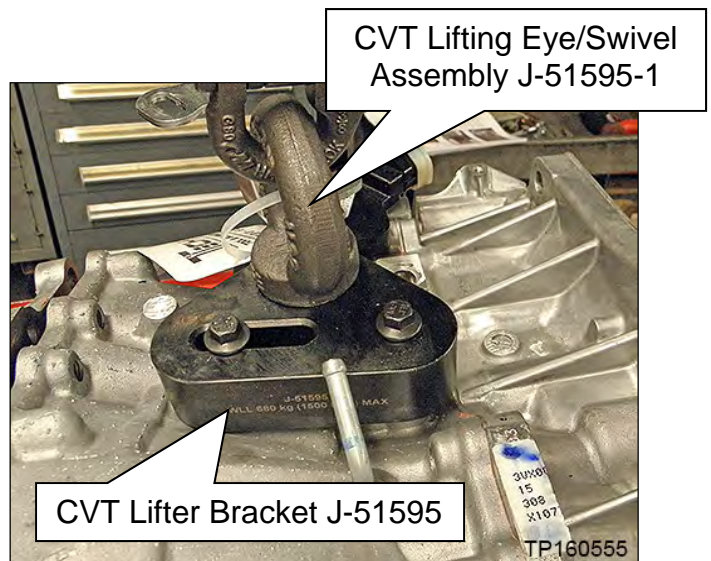

Figure 73
- CVT lifter bracket J-51595 and CVT Lifting Eye/Swivel Assembly J-51595-1 can be used for this step. See Figure 73.
58. Attach Lifting Fixture J-51909 (Figure 81) with eyelet from J-51595 (Figure 73) to the side cover at point shown in Figure 82.